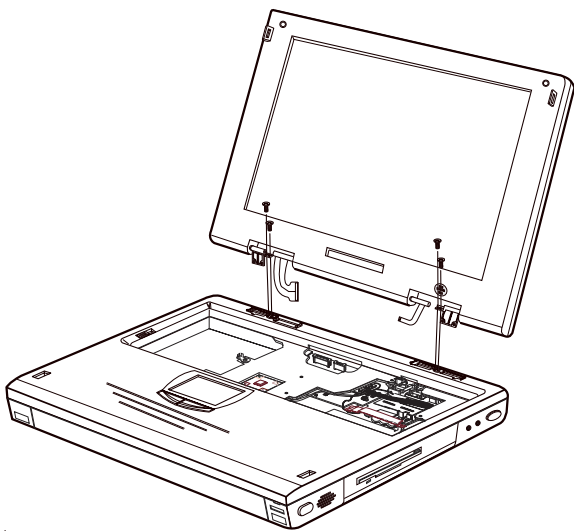

Figure 5-11. Removing LCD Assembly Hinge Screws
12. Remove the four hinge screws at the back of the Keyboard Deck (Figure 5-11).